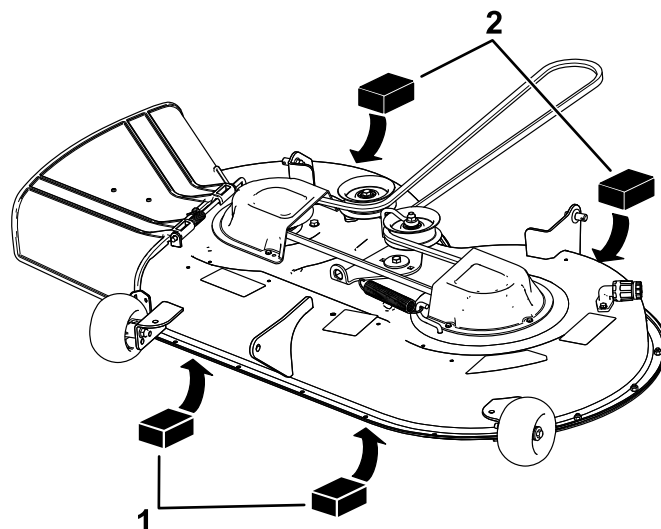

Figure 67
4. Place 2 blocks, each having a thickness of 6.6 cm (2-5/8 inches), under each side of the front edge of the deck but not under the anti-scalp roller brackets (Figure 67).
5. Place 2 blocks, each having a thickness of 7.3 cm (2-7/8 inches), under the rear edge of the cutting deck skirt, 1 on each side of the cutting deck (Figure 67).